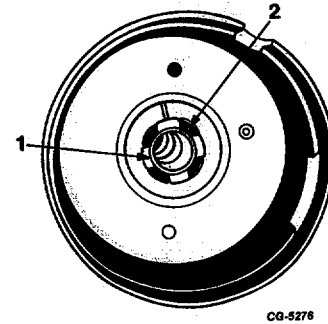

Fig. 35 Upper Bushing Lubricant Reservoirs (Distributors Without Tachometer Drive)
- On distributors without tachometer drive, wash distributor housing in cleaning solvent to remove old lubricant from upper bushing lubricant reservoirs (Figure 35).
- a. Fill reservoirs (Figure 35) with lubricant (oil saturated cotton).